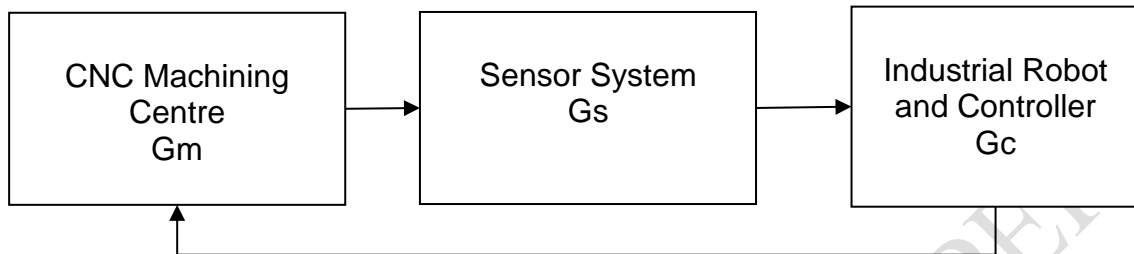

Figure Q5 A Manufacturing System
- Q5.** Figure Q5 shows a manufacturing system which includes a CNC machining centre, a sensor system, and an industrial robot with its control system.
- (a) Draw a closed-loop control system, with the help of a block diagram, for the manufacturing system shown in Figure Q5. Clearly identify all the elements and explain how the whole closed-loop control system works. **(7 marks)**